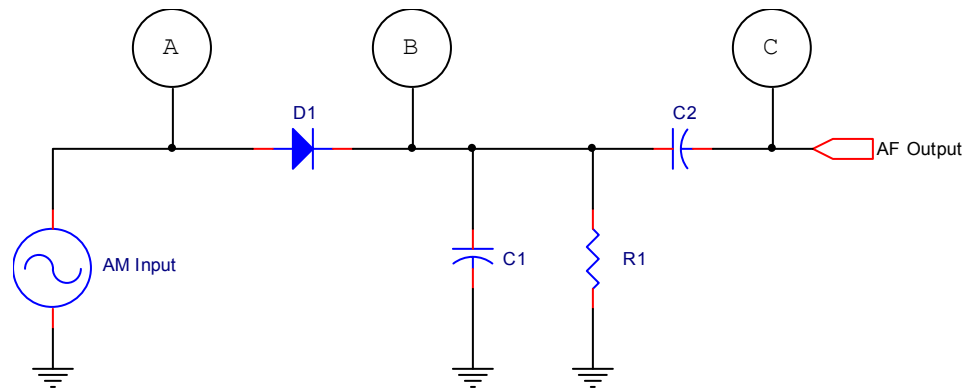

Figure 5-4: The Diode Detector
There are several types of AM detectors in use. The most common of these is the *diode detector* of Figure 5-4. The diode detector generates some distortion of the information, but is the simplest and least expensive approach. A diode detector works because a diode is a nonlinear device. In general, a nonlinear device is required to both *modulate* and *demodulate* (detect) AM signals.
- 5-9 What component in Figure 5-4 "stores" the envelope voltage between RF peaks?